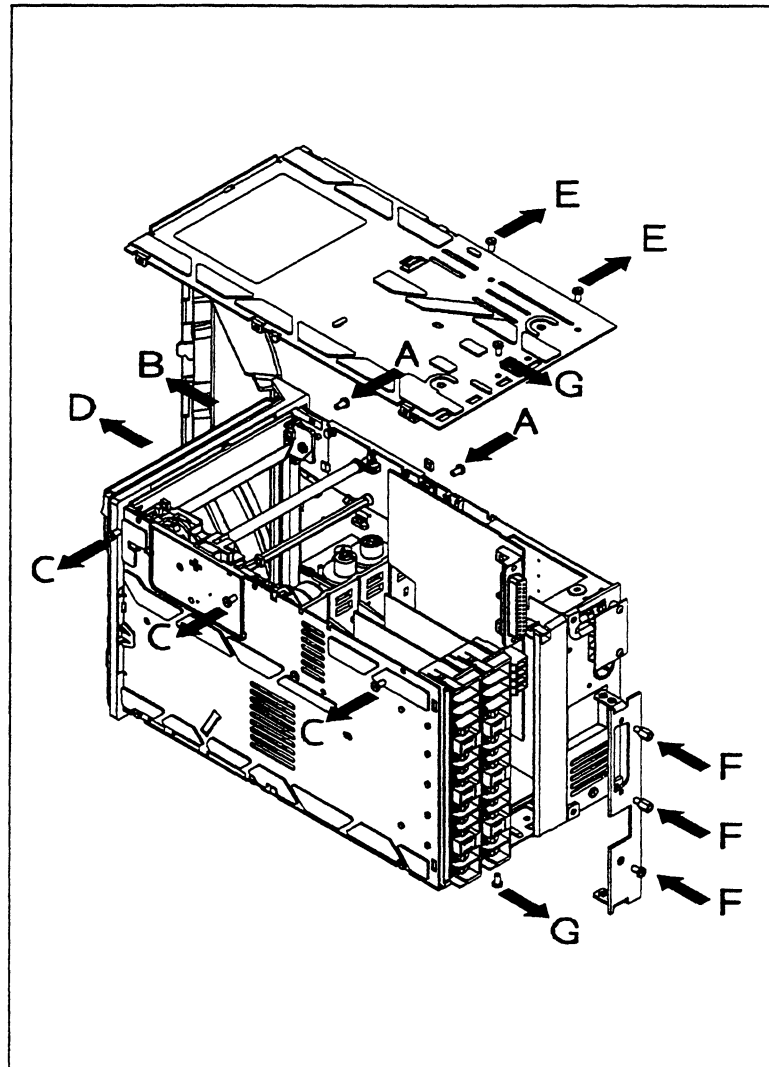

Figure 2-3
4. Loosen and remove the 2 fixing screws A on the right hand side plus internal nut B and bracket for illumination option. See fig. 2-3.
5. Loosen and remove the 3 fixing screws C on the left hand side plus internal nut D. See fig. 2-3.
7. Present the (new) board in slot. Slide board into position using the guides. See figures 2-3 and 2-4.
13. Tighten the 2 terminal block screws G of the communication board. See figure 2-3.